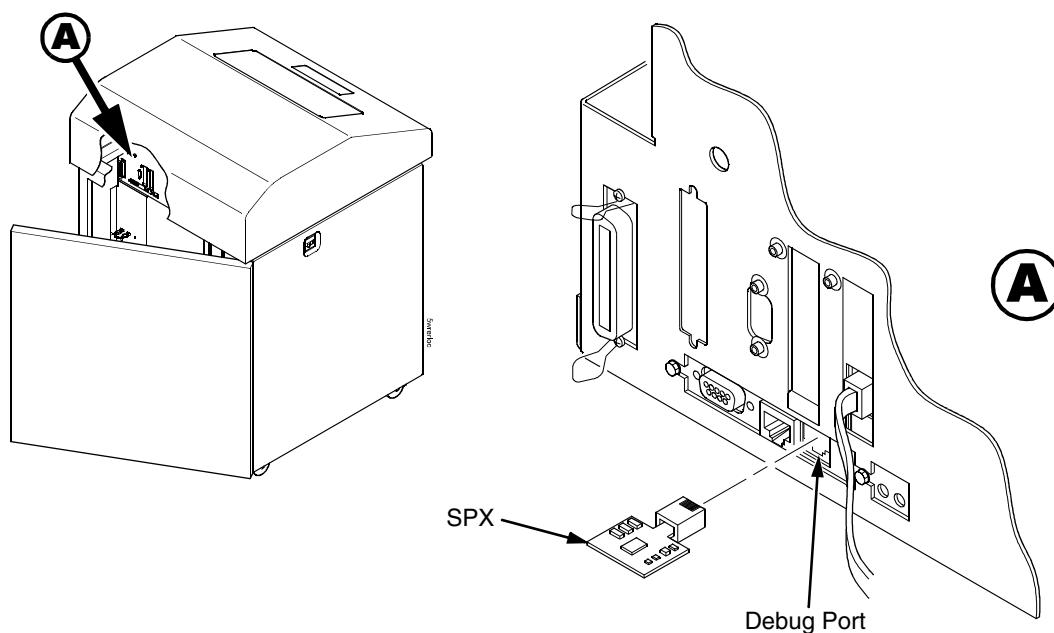

Figure 17. Inserting the SPX into the Debug Port
3. Insert the SPX into the debug port, in as shown in Figure 17 on page 184.